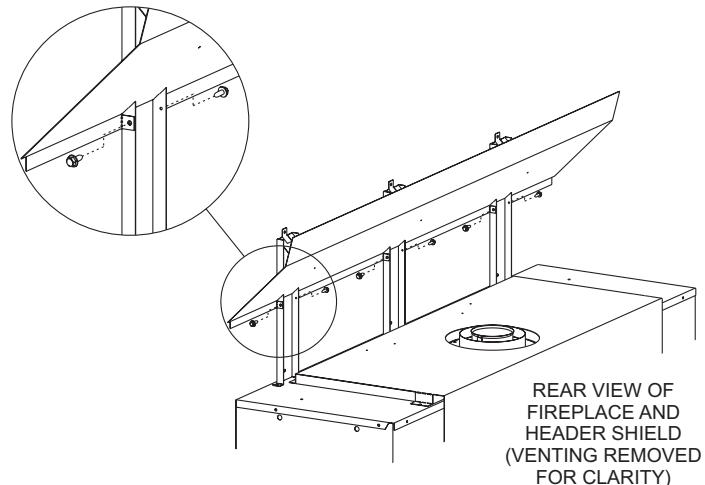

**Figure 26**
1. The Header Shield and (3) Top Standoffs are shipped with the fireplace. Pre-assemble the Header Shield to the Top Standoff brackets, before installing to the top of the fireplace and framing header. **See Figures 26, 27 and 28.**